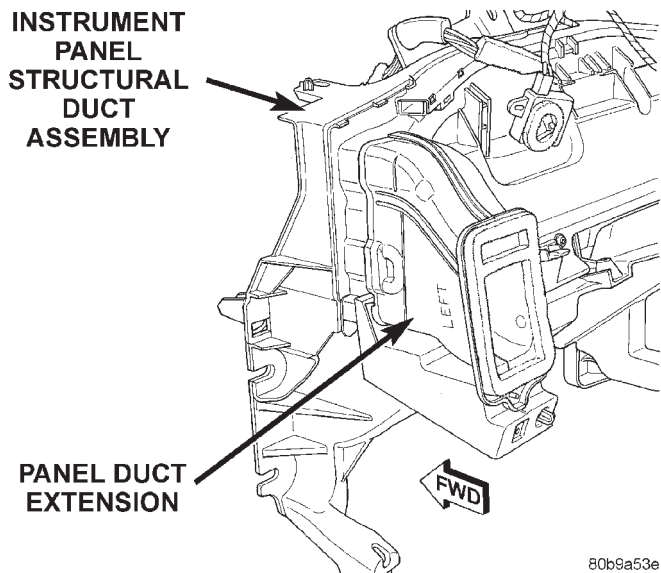

Fig. 41 Instrument Panel Duct Extension
(3) Remove the duct extension(s) from the instrument panel (Fig. 41).